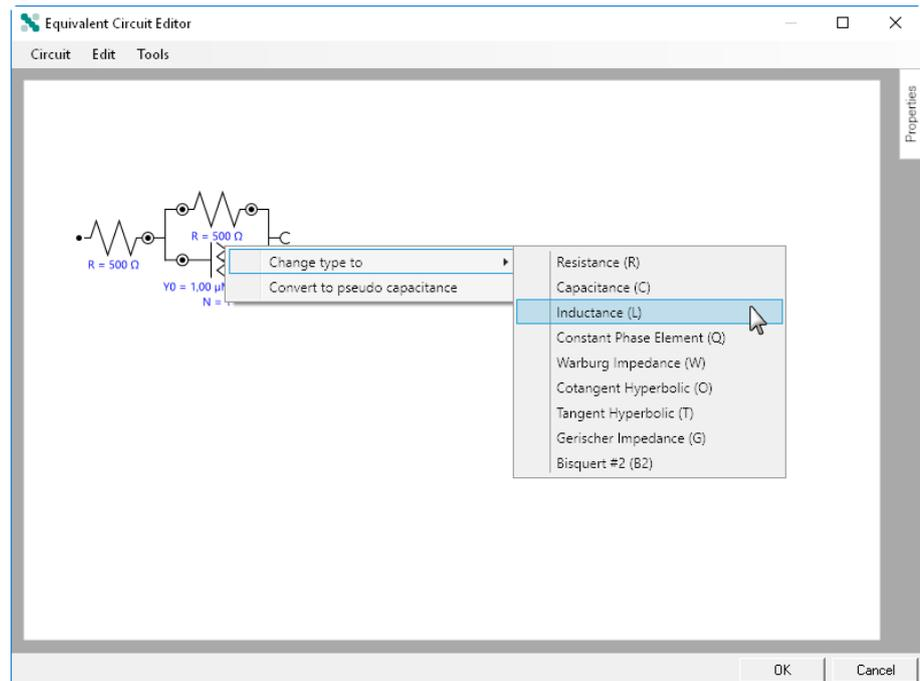

Figure 488 Changing a circuit element
- **Change element type:** right-clicking a circuit element displays a context menu which can be used to change the equivalent circuit element from one type to another (see Figure 488, page 425).